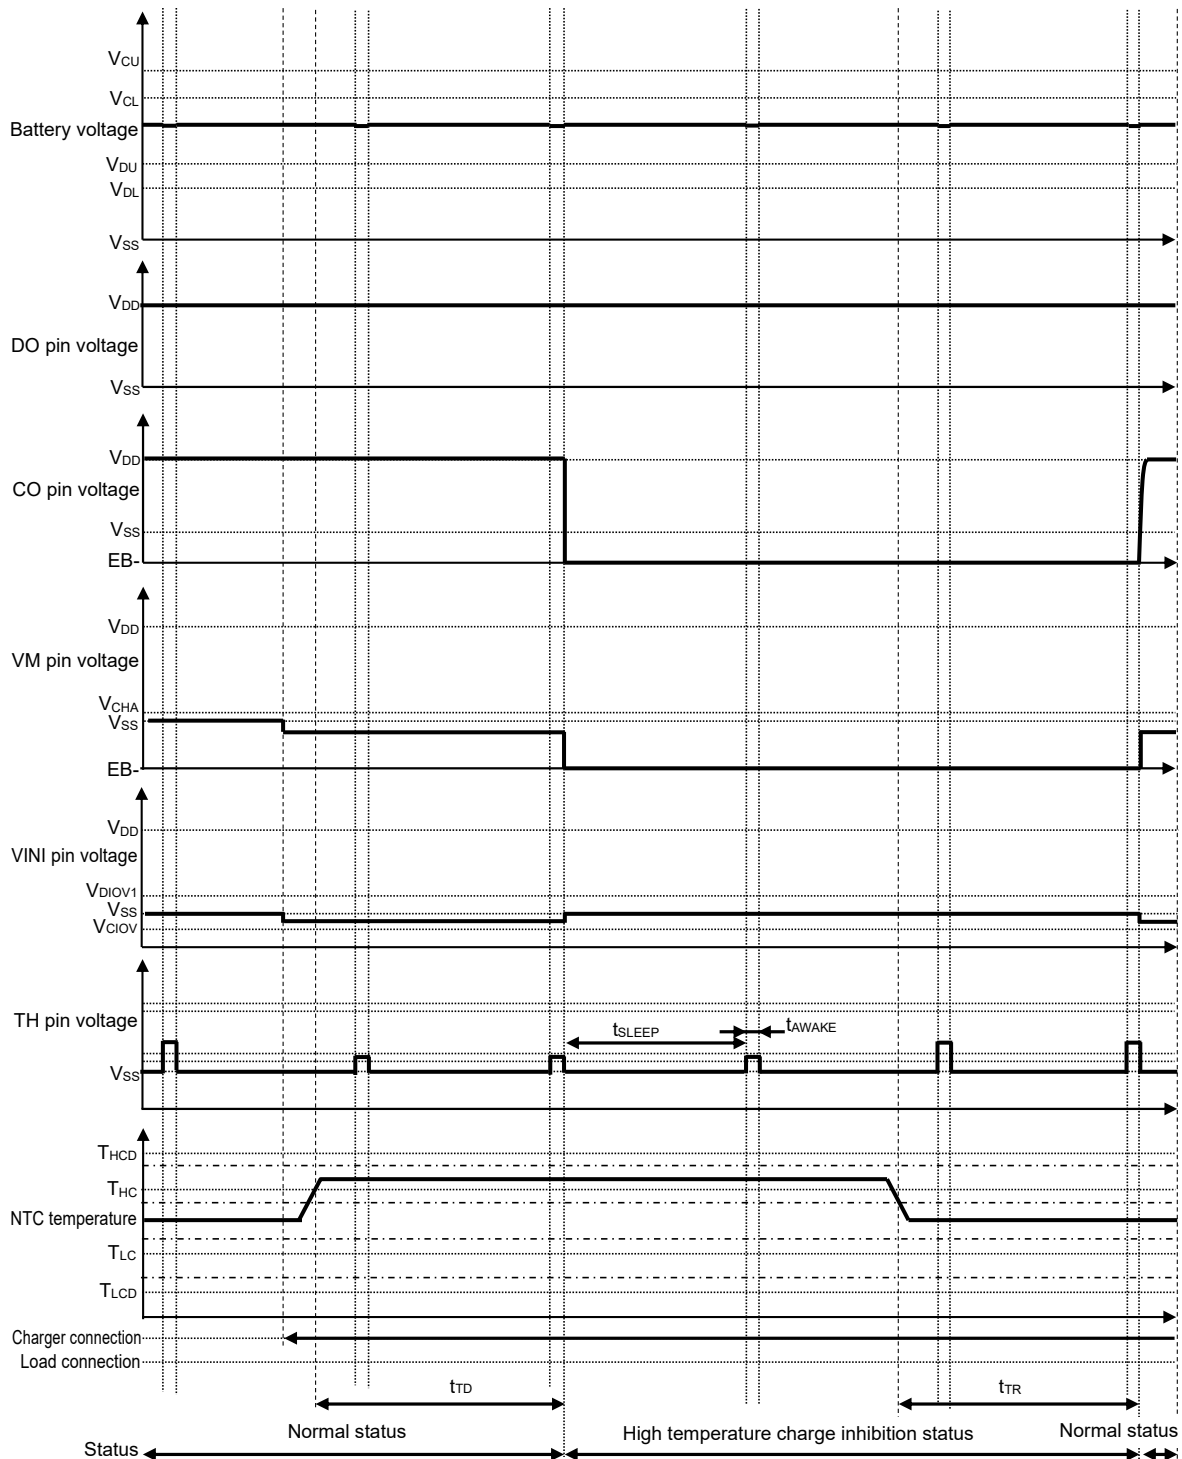

Figure 14
**Remark 1.** Figure 14 shows an example when  $N = 2$ .  $t_{TD}$  and  $t_{TR}$  have the following ranges.